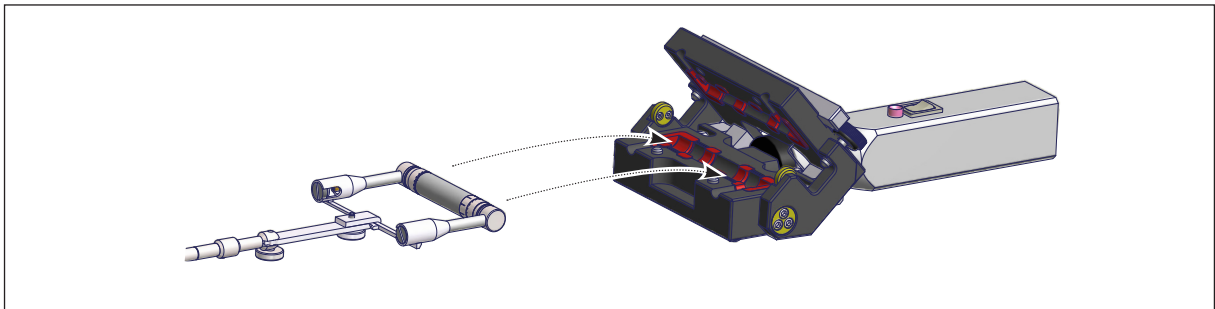

Fig. 6. Placing the probe head in the calibration adapter.
1. Lift the probe head and place it gently into the rubber inserts, as indicated by the arrows in Fig. 6.